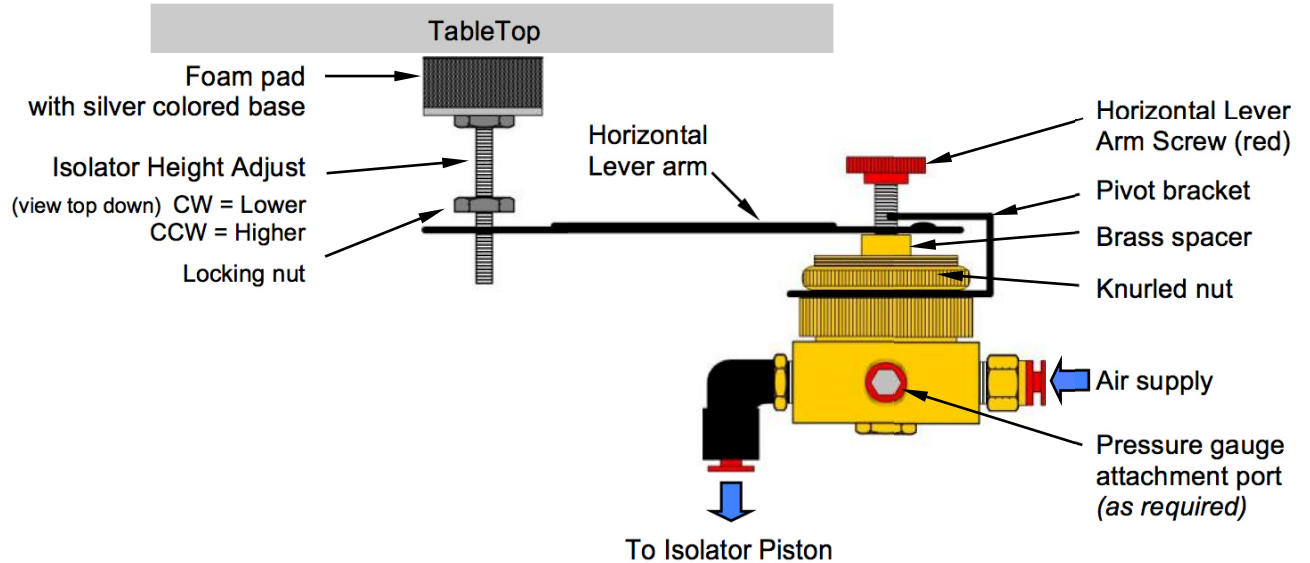

Figure 10, *Height Control Valve*
Step 17 Tighten *locking nut* on **ISOLATOR HEIGHT ADJUST** for all three valves as shown in figure 10, *Height Control Valve*.